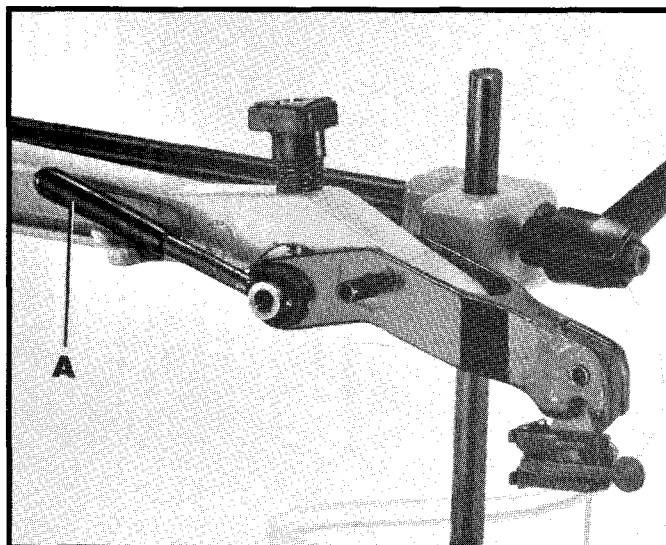
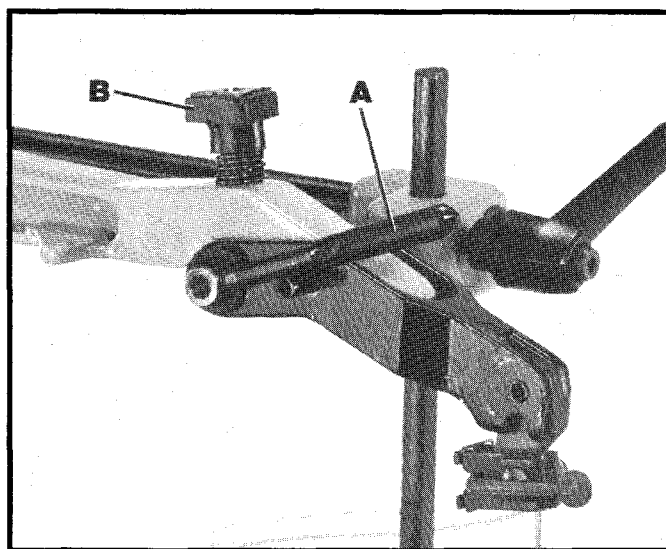

Fig. 28
Fig. 29
Tension is applied to the blade when the blade tension lever (A) Fig. 28, is in the rear position, as shown. When the lever (A) is moved forward, as shown in Fig. 29, blade tension is released.
To increase blade tension, turn knob (B) Fig. 29, clockwise and to decrease blade tension, turn knob (B) counter-clockwise. When adjusting blade tension, lever (A) should be in the forward position, as shown in Fig. 29. **NOTE:** It is necessary to adjust the blade tension knob (B) only when the blade is removed from both upper and lower blade holders and a new or different type of blade is assembled to the holders. It is not necessary to adjust blade tension when the blade is removed and replaced in only the upper blade holder as in performing inside cutting operations.
Adjusting the blade for proper tension is usually accomplished by trial and error; however, a good method to use is to pluck the rear of the blade, like a guitar string, after the tension lever (A) Fig. 29, is moved to the rear. A high-pitched tone of the blade should be heard and this usually indicates proper tension. Finer blades require more tensioning (a higher pitched sound) while thicker blades require less tension.